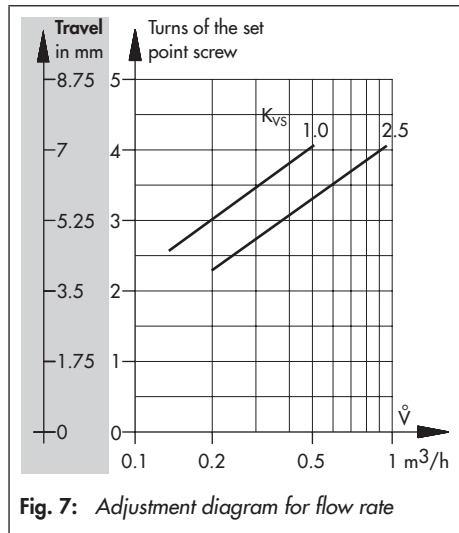

Fig. 7: Adjustment diagram for flow rate
1. To fully close the restriction (11), de-energize the electric actuator (16).
2. Turn the set point adjuster (19) clockwise (⌚) as far as it will go to close the restriction.
3. Use a suitable tool (Allen key, A/F 4) to turn the set point screw (13) clockwise (⌚) as far as it will go.
4. Refer to Fig. 7 to find out how many turns are required to set the flow rate.
5. Use a suitable tool (Allen key, A/F 4) to turn the set point screw (13) by the required number of turns. Turn it counter-clockwise (⌚) to open the restriction. The flow rate rises.
7. Reconnect the power supply to the electric actuator (16).